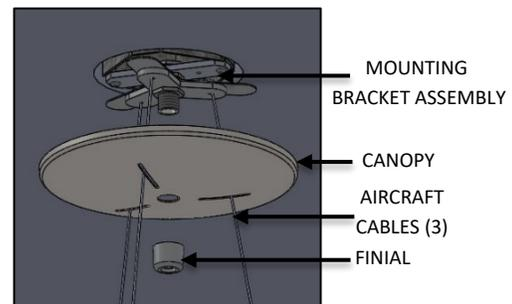

FIG. 11 – CANOPY INSTALLATION
3. Feed the remaining AIRCRAFT CABLES (3) from the MOUNTING BRACKET ASSEMBLY through the slots of the CANOPY. Loosely secure CANOPY to the ceiling by threading the FINIAL to the MOUNTING BRACKET ASSEMBLY as shown below in FIG. 11.